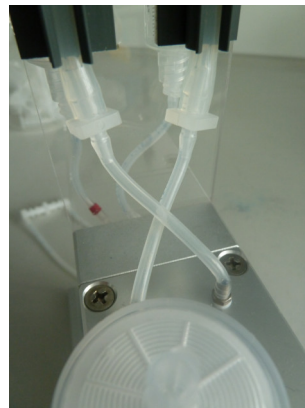

Figure 51 – Crossing the tubing above the valve block (valve 1).
9. Keep the tubing above the reservoirs crossed, and cross the tubing on the valve block (Figure 51).